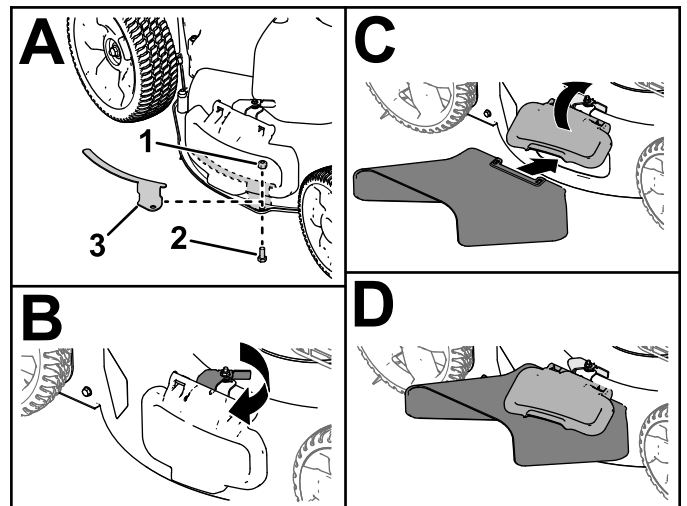

Figure 19
1. Remove the side-discharge deflector bracket and fasteners (A of Figure 19).
2. Unlatch and lift up the side deflector and install the side-discharge chute (B, C, and D of Figure 19).
**Important:** Install the deflector bracket when not using the side-discharge chute (A of Figure 19).